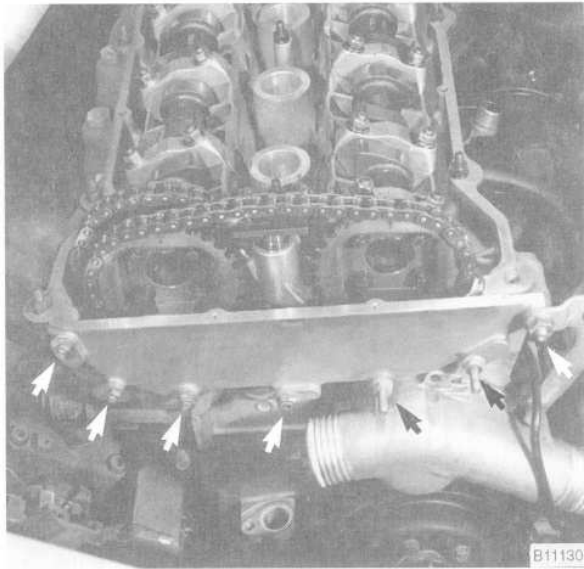

Fig. 15. Upper timing chain cover mounting nuts (arrows) on 1991 and 1992 cars.
25. On 1991 and 1992 cars, remove the upper timing chain cover from the front of the cylinder head. See Fig. 15.